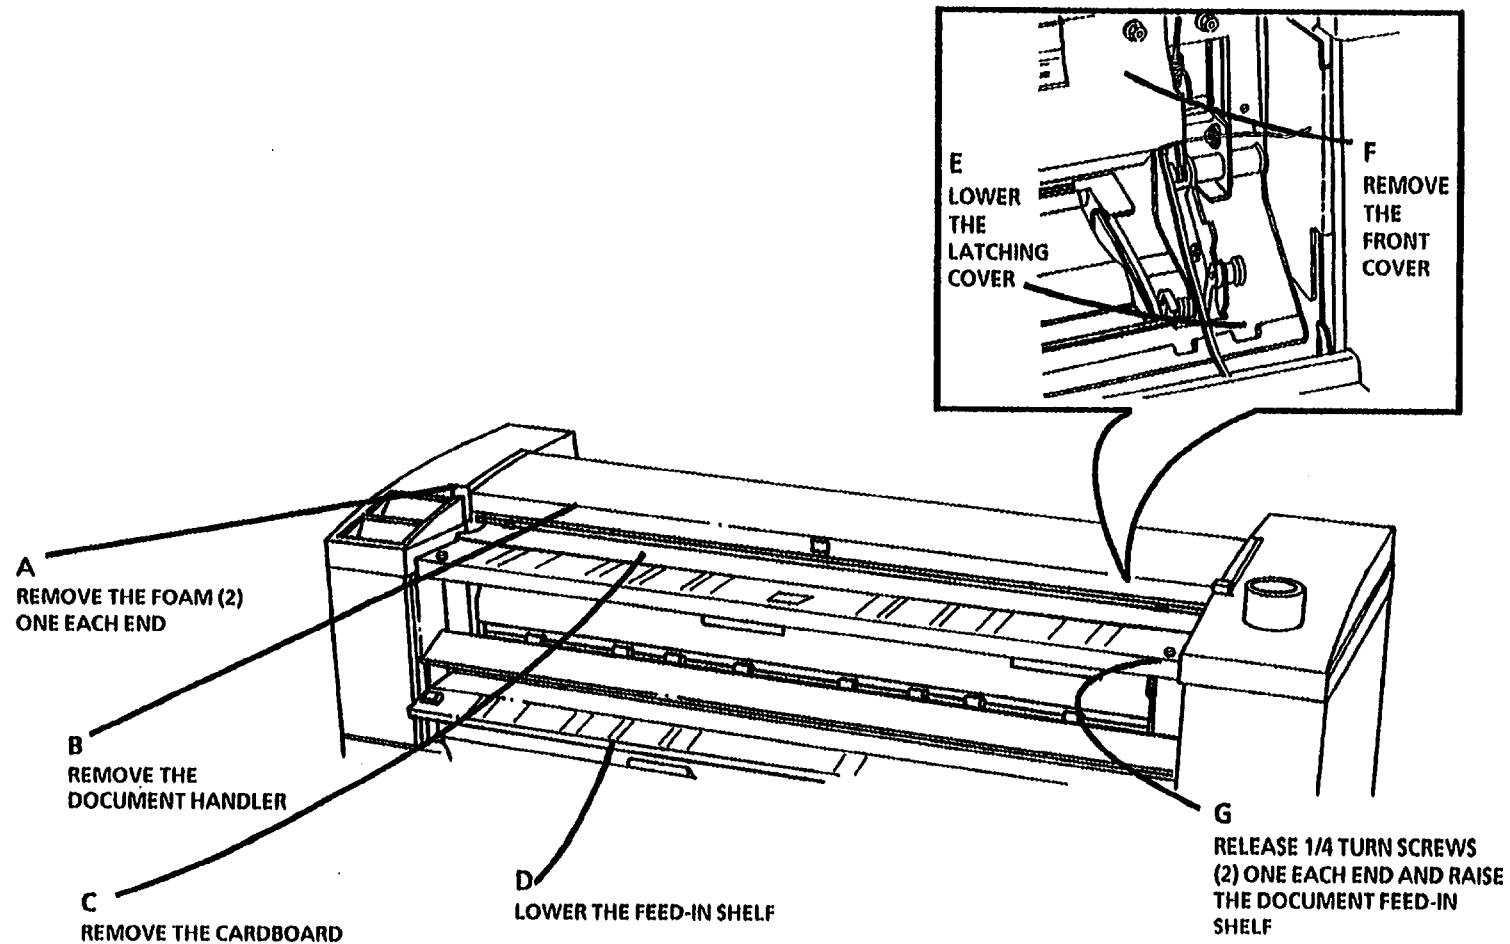

Figure 3. Remove Document Handler
1. (Figure 3): Remove the packing material.